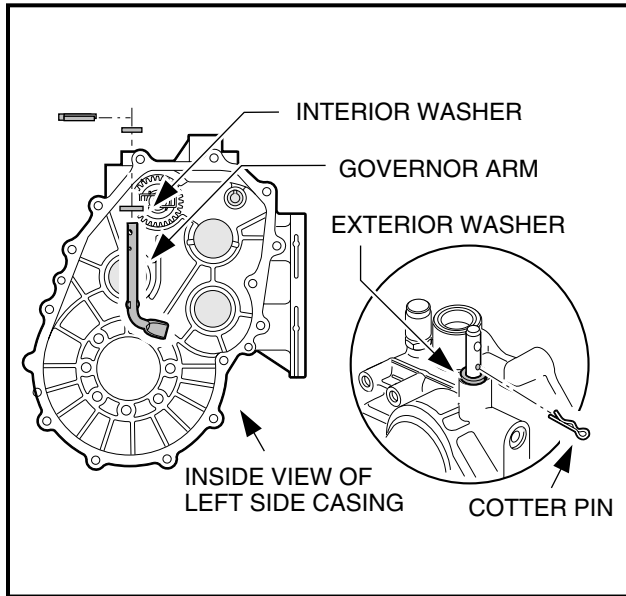

Figure 19-47 Pivot Arm
5. Position the interior washer on the pivot arm, and install the pivot arm and washer into the left (driver side) case as shown (**Figure 19-47, Page 19-24**). Install the exterior washer and cotter pin on the pivot arm outside the case. Bend the legs of the cotter pin.